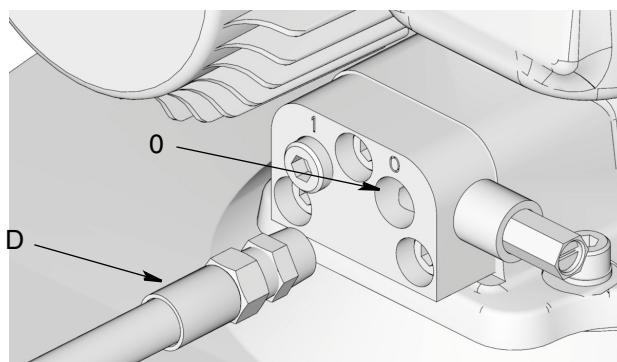

FIG. 71: Lubricant Outlet Connection
6. Connect the timer/controller (F) (user supplied, if used).
7. Connect High Pressure Lubricant Supply Line (D) to the Lubricant Output Connection (O) (FIG. 71) on the Vent Valve or Manifold.